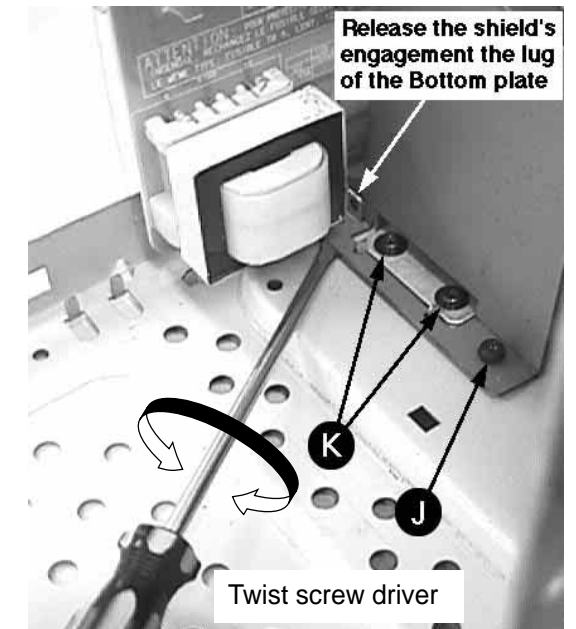

Figure 11
- 2) Loosen 1 screws J and uncatch Shield Transformer (pos 269) from the Bottom plate (pos 265) as shown in figure 11 to remove it.
- 3) Loosen 4 screws K mounting the Mains Transformer (pos 5001) to remove the Mains Board & Transformer assembly.
- 4) Loosen 2 screws L to remove the Housing Fan top (pos 267).